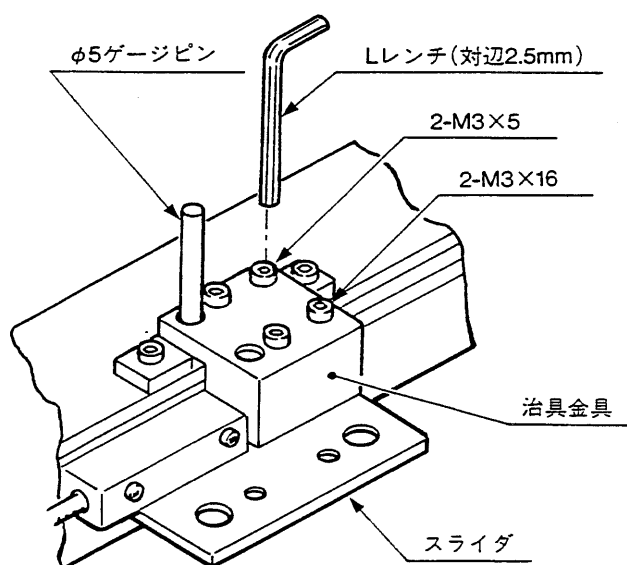

Fig. 5
- Remounting the Head (Refer to the Fig.5)
- (1) Temporarily mount the scale and slider using the jig block.
- (2) Use the scale gauge pin to position and mount the scale.
- (3) In the same manner, use the slider gauge pin to position and mount the head carrier.